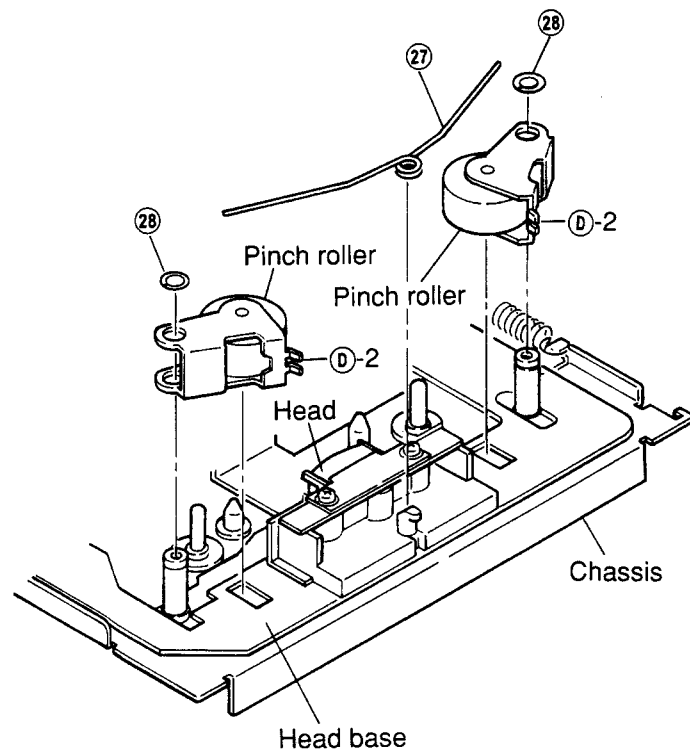

Figure 20
- (1) Remove pinch roller spring ②⑦ as shown in Figure 20.
- (2) Remove M3.1 two lock washers ②⑧ and remove the pinch roller as shown in Figure 20.
- (3) Mount the pinch rollers following the removal steps in the reverse order.
Apply insulation coating to the position ①②-2 of the pinch roller as shown in Figure 20.